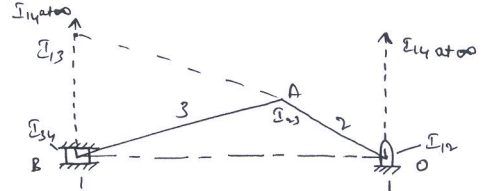

Fig.Q4(b)
- b. In a slider crank mechanism shown in Fig. Q4(b), the crank OA = 300mm and connecting rod AB = 1200mm. The crank OA is turned 30° from IDC. Locate all the instantaneous centres. If the crank rotates at 15 rad/sec clockwise find :